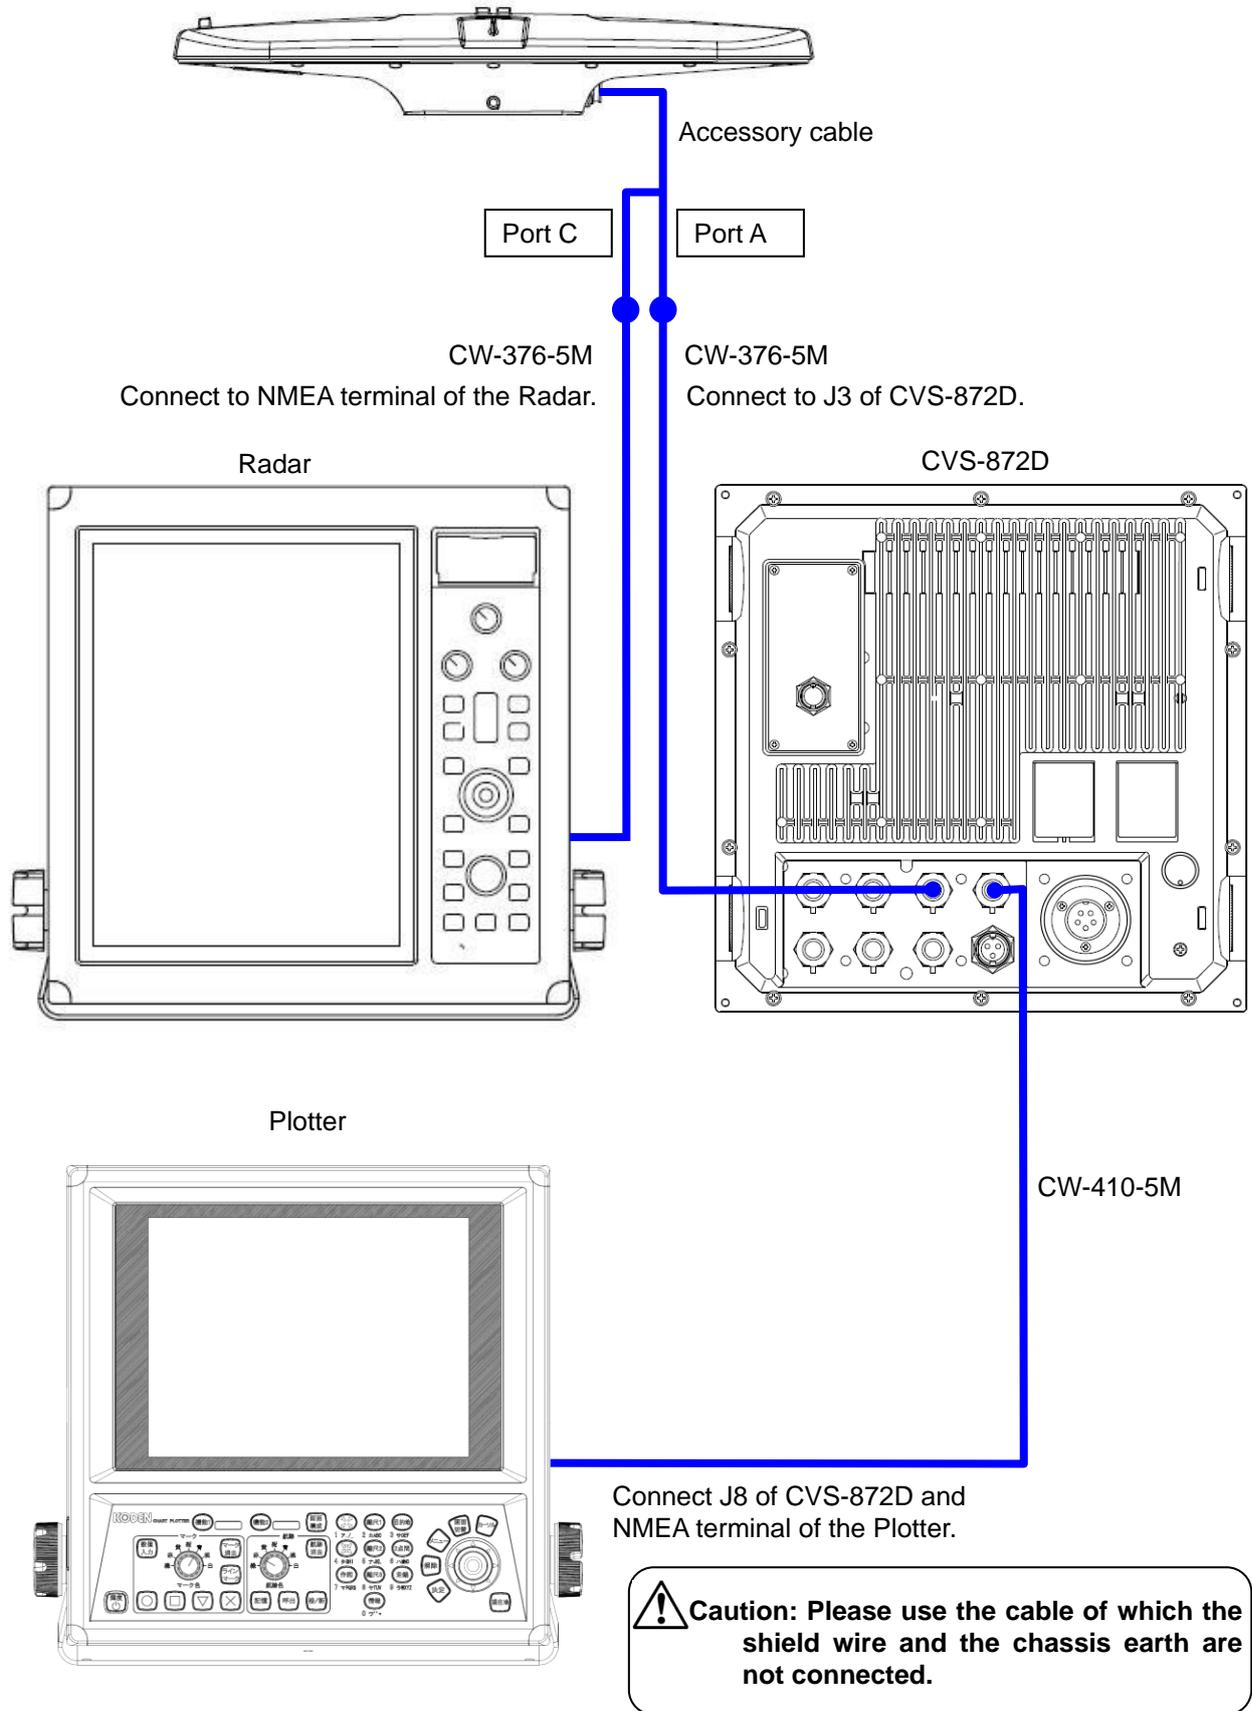

Fig. 1.58 The general connection chart 1
- 3) Connect CW-376-5M to NMEA terminal of Radar after soldering with Port C when connecting with Radar as GPS compass. Refer to “**Fig. 1.58 The general connection chart 1**”.